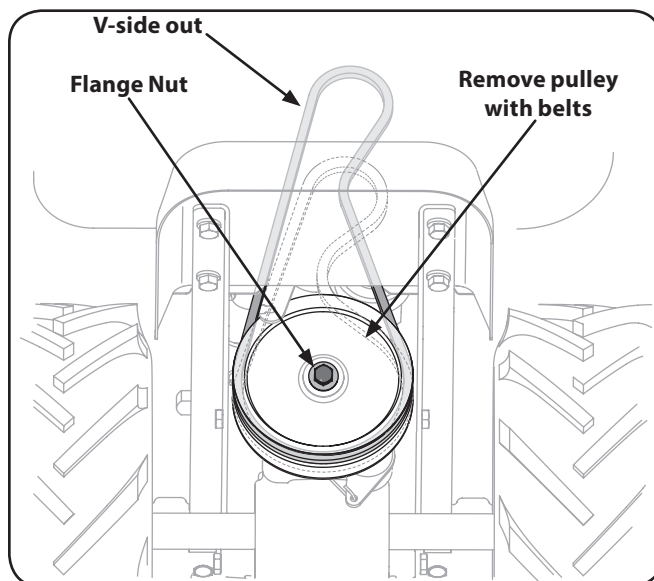

Figure 7-5
- Remove the flange nut securing the transmission drive pulley, then remove the pulley along with the two belts. See "Figure 7-5".